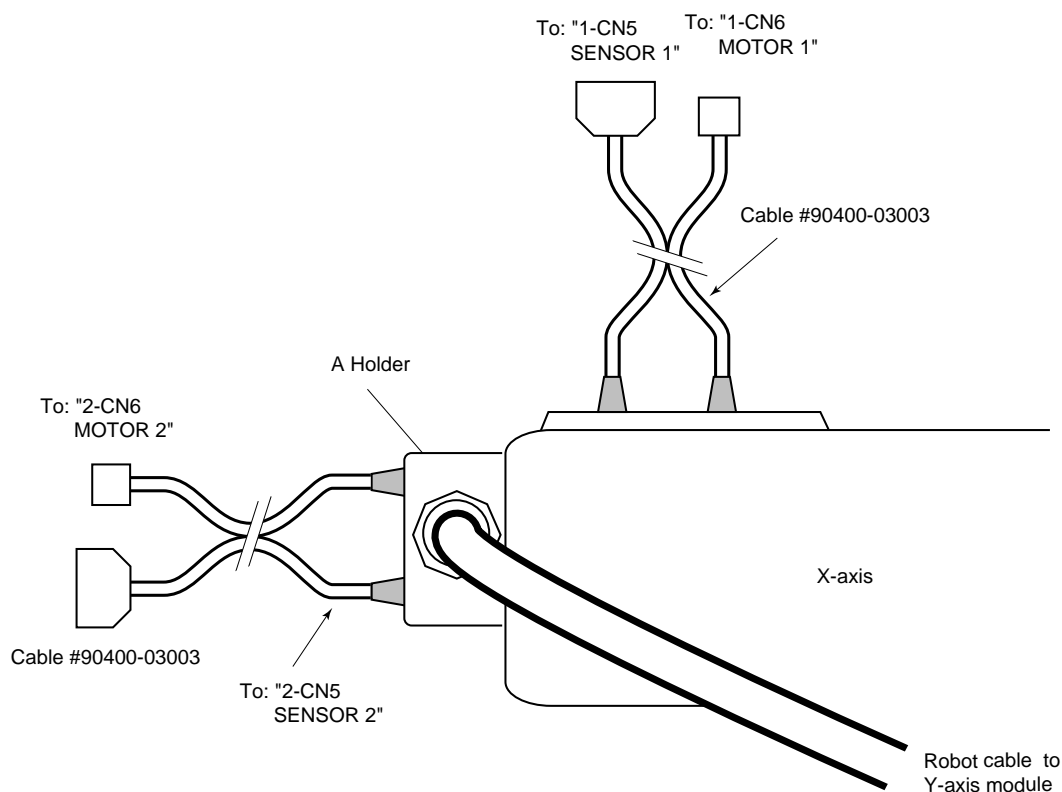

Figure 4-21. Connecting to an EXA or EXC Controller
- a. Connect the two barrel ends of the cable to the X-axis module as shown in Figure 4-21. These connectors have different pin sizes and cannot be installed incorrectly. The other ends connect to the controller connections marked "1-CN6 MOTOR 1" and "1-CN5 SENSOR 1".
- b. Attach the A holder end of the robot cable to the motor end face of the X-axis module as shown in Figure 4-21 (refer to Section 4.3 for holder mounting).
- d. Connect the two barrel ends of the controller cable to the Y-axis module as shown in Figure 4-21. These connectors have different pin sizes and cannot be installed incorrectly. The other ends connect to the controller connections marked "2-CN6 MOTOR 2" and "2-CN5 SENSOR 2".
- a. Connect the two barrel ends of the cable to the X-axis module as shown in Figure 4-21. These connectors have different pin sizes and cannot be installed incorrectly. The other ends connect to the controller connections marked “1-CN6 MOTOR 1” and “1-CN5 SENSOR 1”.